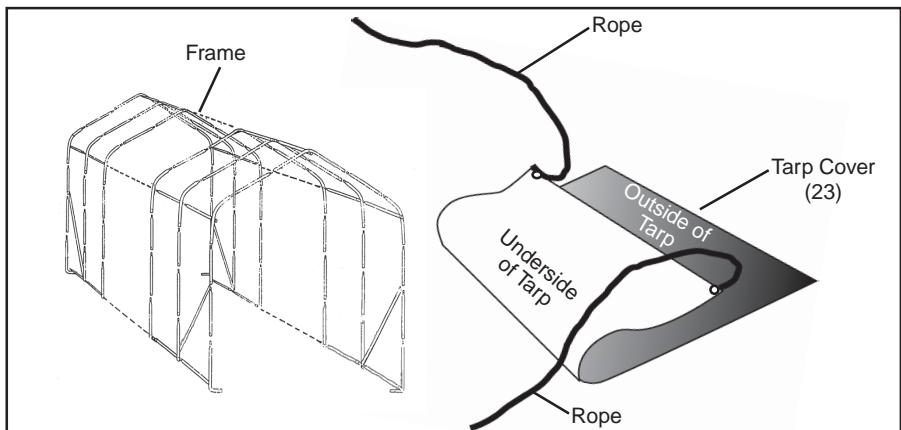

Figure 10
1. Position the Tarp Cover (23) face side up, being aware of length and height of RV Shelter frame in reference to the length and width of the Cover. Lie the Tarp Cover along the side of the frame. Fold in half lengthwise. Position the folded Tarp as close to the frame as possible. Attach long ropes (not provided) in holes on each end of the Tarp. These ropes will be used to guide and pull the Tarp Cover (23) over the top of the frame. **Figure 10.**
2. Use at least six people to help position the Tarp Cover (23) over the frame. It is suggested to have a person on a ladder at each end of the frame to assist with lifting. For safety, have someone to support the ladder so it will not topple over. Use two to four other people to pull the ropes and shift the Tarp Cover (23) into position. **See Figure 10.**